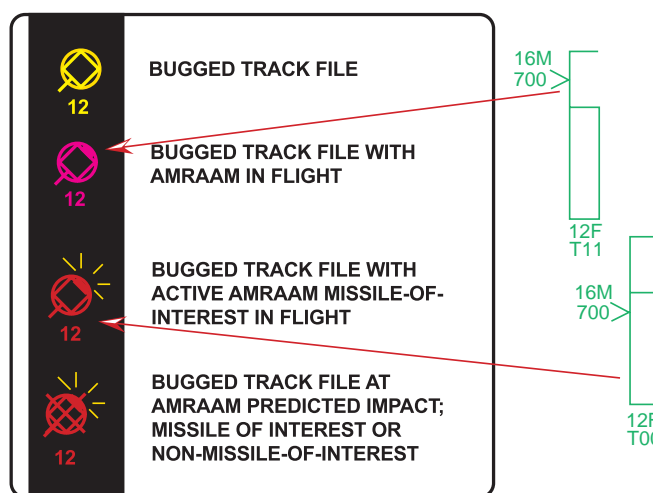

Figure 3-35 MFD Target Symboly With AMRAAM Inflight
M2 displays the MFD target tail symbol when a slave launched AMRAAM has been launched against the target. The tail symbol on the target flashes when the missile of interest goes active. When any missile launched against a target is predicted to have impacted the target, the missile impact indication (X) is displayed over the target. The tail symbol only flashes if the missile went active before impact (Figure 3-35). The missile impact indication is displayed for 13 seconds (8 steady and 5 flashing).